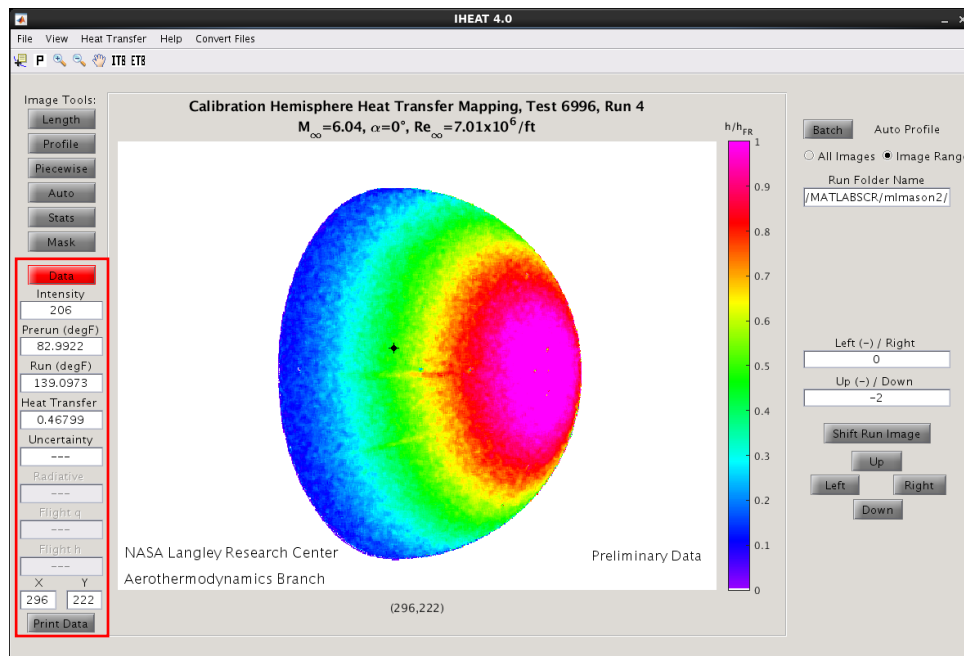

Figure 26: Image Tools, *Data* and *Print Data*.
7. *Data/Print Data* Tools: The combined *Data* and *Print Data* tools are shown in figure 26. When *Data* is clicked, a black point appears in the upper left corner of the image and the *Print Data* button is enabled. All of the data that are available at the specified pixel location (for images up to, and including, the visible image) are listed in the appropriate text boxes under the *Data* button. Since the heat transfer image is shown in figure 26, the first four text boxes contain information. The *Intensity* text box refers to the data from the green pre-run intensity image plane. The user can either drag the point to a different pixel location on the image, or type the new pixel coordinates directly into the text boxes labeled X and Y.
The *Print Data* button in figure 26 allows the user to save the information about the current data point to a *.txt* file. Once the *Data* tool is exited, the *Print Data* button is disabled and the strings in the text boxes are replaced with the default “---” strings. The *Data* tool can be useful in determining which pixels to select in line cuts or an *Auto Profile* analysis.